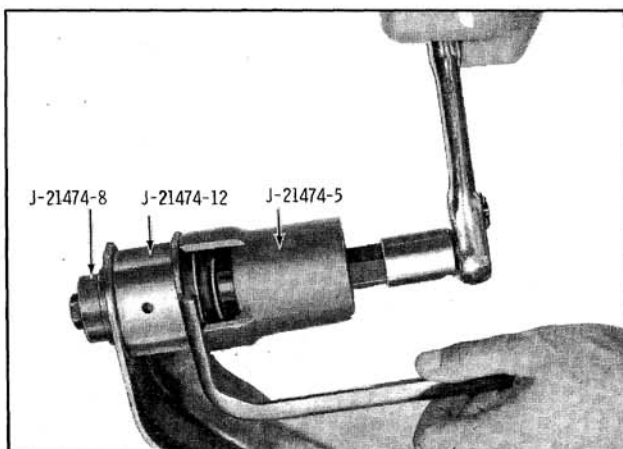
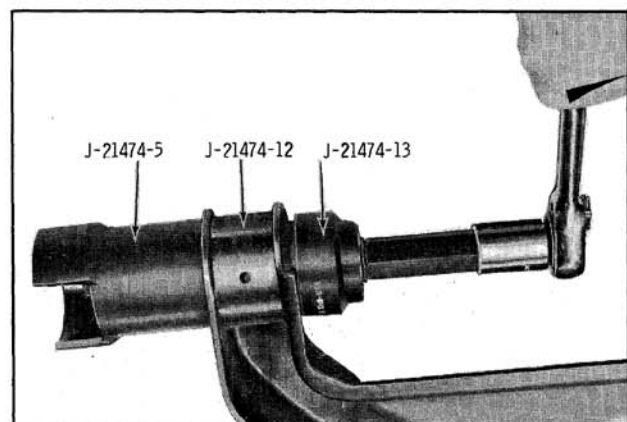

Fig. 9-21 Removing Lower Control Arm Bushings
Fig. 9-22 Installing Lower Control Arm Bushings
7. Relax spring tension by slowly removing Tool BT-6505 until lower control arm is low enough to install Bushing Removing Tool J-21474-16. Remove bushing as shown in Fig. 9-21. Install bushing as shown in Fig. 9-22.